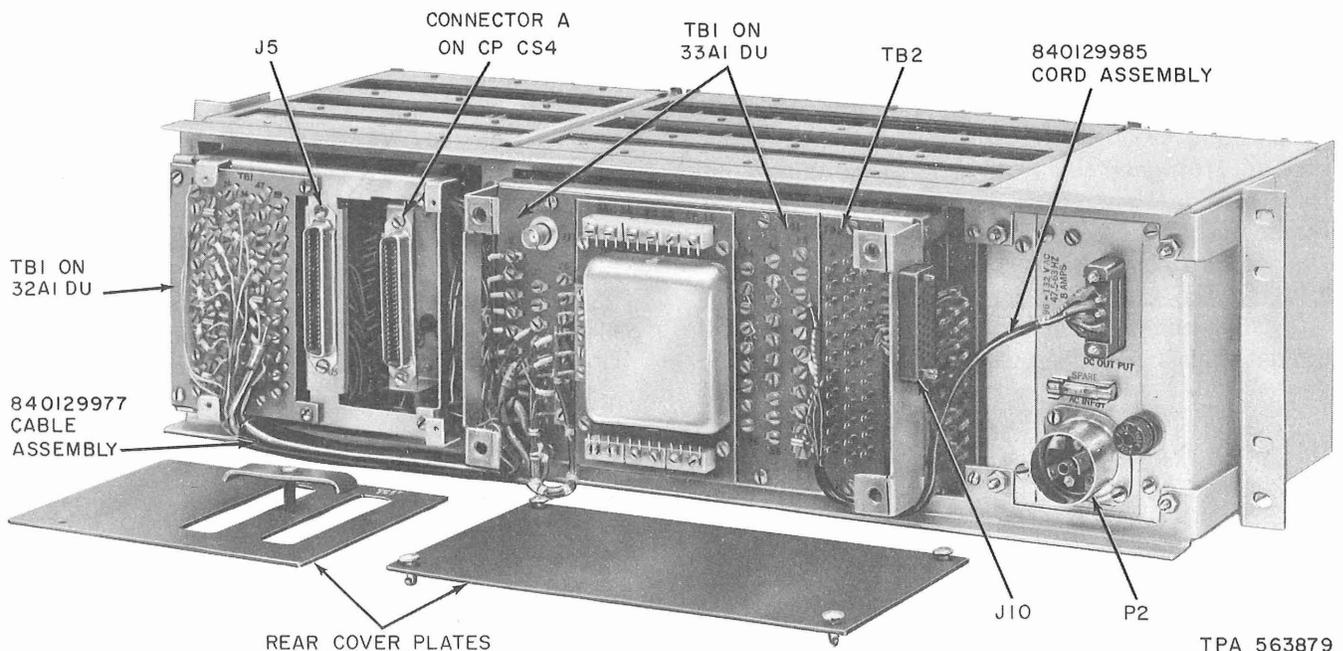

Fig. 6—Terminal Board and Connector Identification on the Rear of Data Set 306A-L1/2
3.04 The terminal protection plates on the rear of the 32A1 DU and 33A1 DU must be removed before connections can be made on the rear screw-down terminals. Figure 6 identifies terminal boards on the rear of DS 306A-L1/2 for connection purposes.